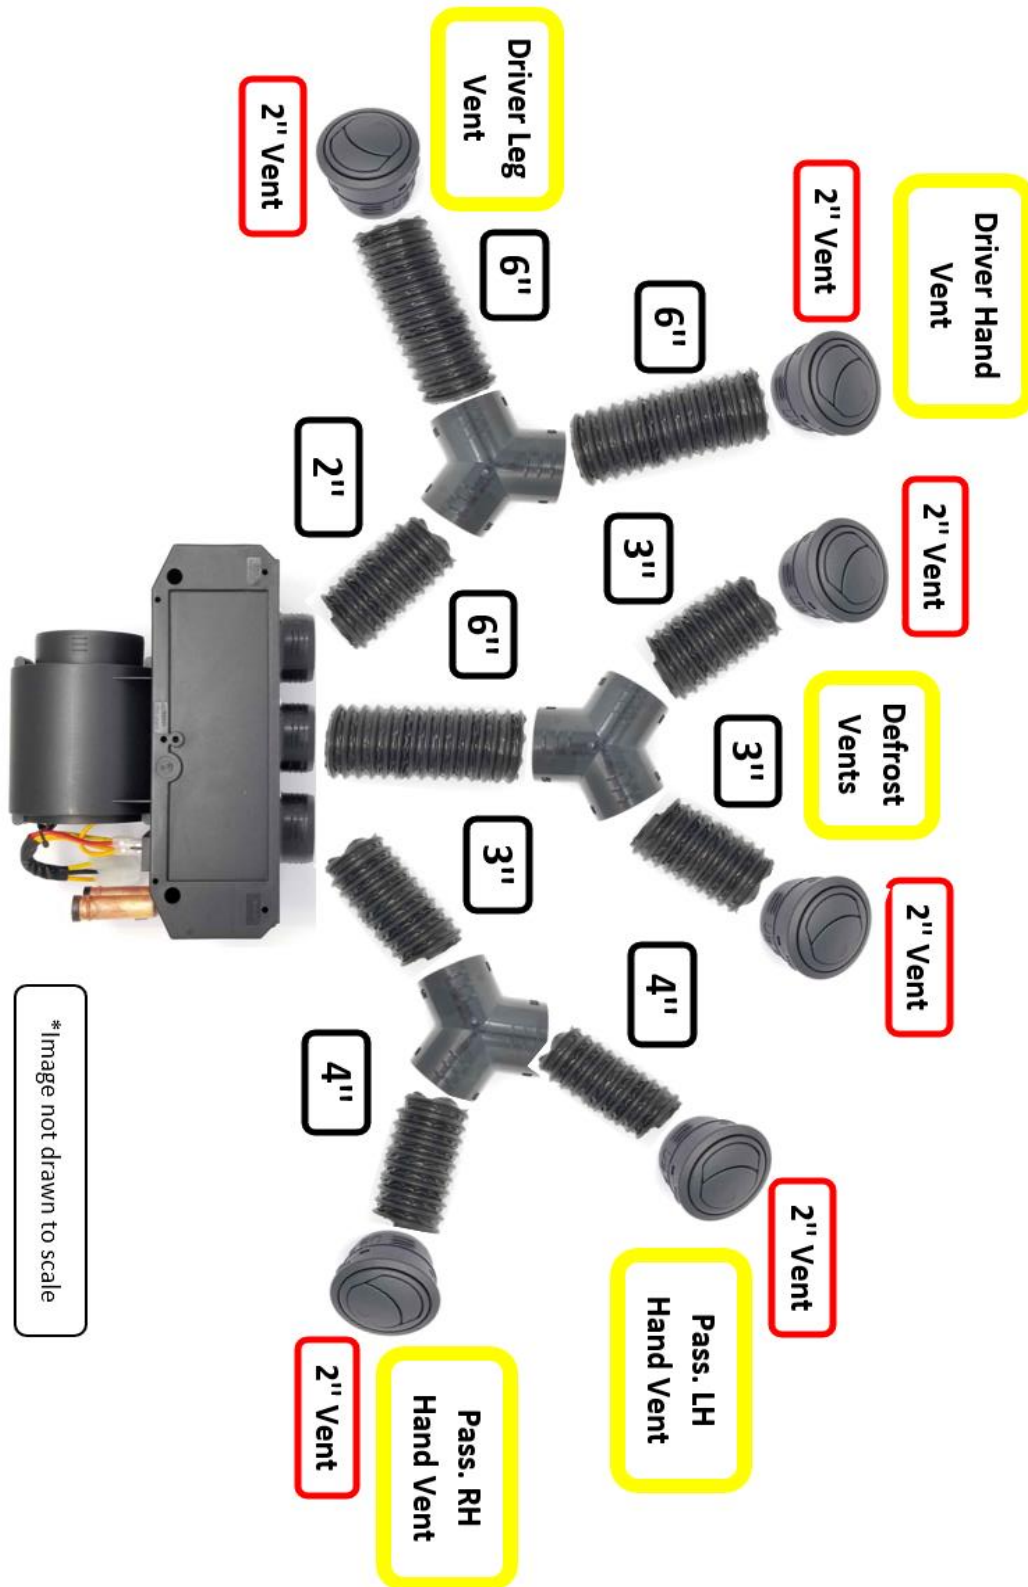

Figure 10
- c. Using Figure 10 as a guide, cut duct hoses to length. **Important Note: Lengths shown are measured in a compressed state. Place a tape measure on a table, compress hoses tightly and measure according to the diagram shown. Cut the metal core using wire cutters.**